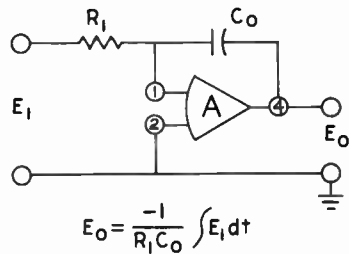

Fig. 21. Integrator Circuit
If a capacitor is used as the feedback element in the inverting amplifier, Fig. 21, the result is an integrator. An intuitive grasp of the integrator action may be obtained from the statement under the section, "Current Output," that current through the feedback loop charges the capacitor and is stored there as a voltage from pin (4) to ground. This is a voltage input current integrator.